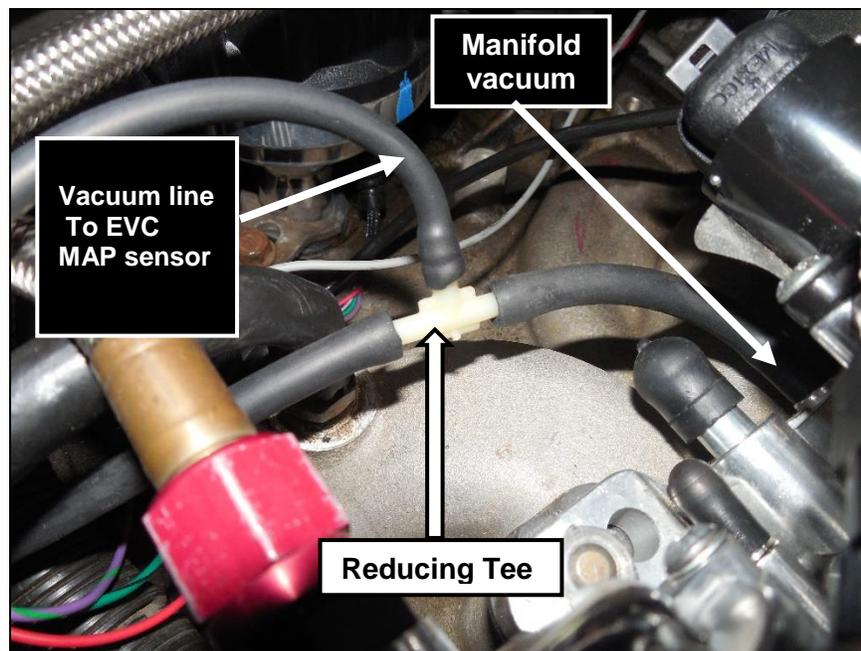

Figure 21
- Connect the 1/8th inch vacuum hose directly (or using the reducer tee provided) to the vacuum source (**Fig. 21**).